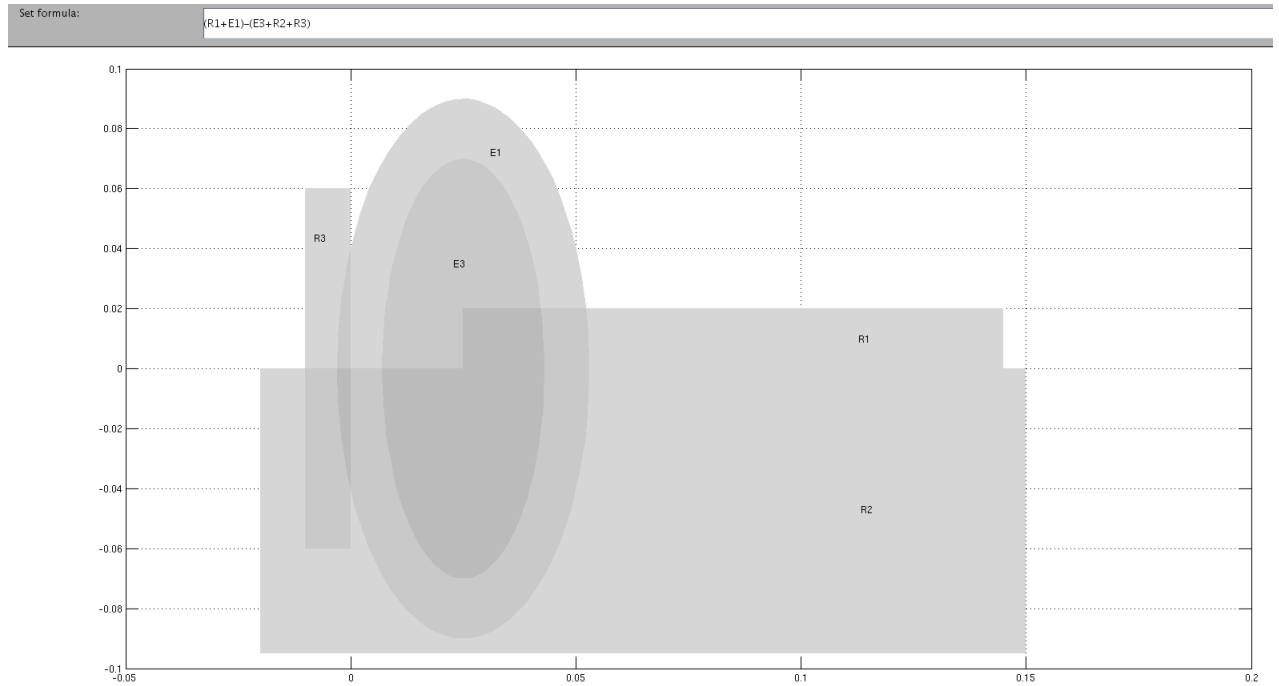
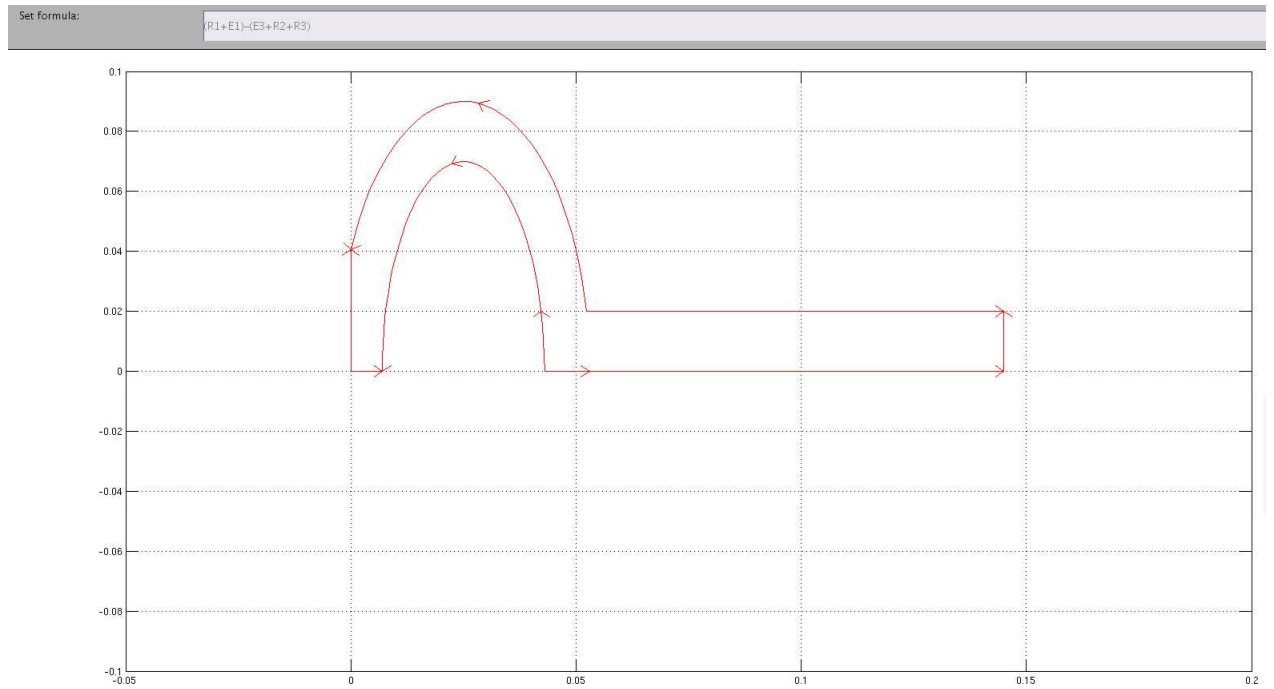

Figure 5: Set of combined shapes.
Figure 6: Resulting geometry seen in boundary mode (ctrl+B) after all subdomains have been removed.
**Determining combined geometry:** In the box below shape-buttons the present features are presented by name (which may be edited using object dialog). The plus sign indicates that geometries are added and minus signs indicate that they are cut out. Because of this the order is important i.e  $\mathbf{R1+E1-E2 \neq R1-E2+E1}$  in general. Below figures showing drawn features and the resulting body after combining by grouping and changing signs in the set formula row (see figure 5, 7 and 6). Note that to see the resulting geometry we need to go to either meshing or boundary view (see toolbar).
To obtain the geometry provided in figure 6 the formula used is given in figure 7 and the object names is seen in figure 5.